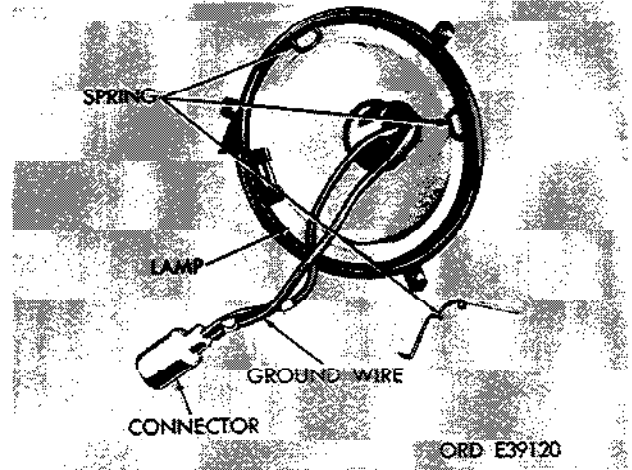

Figure 2-197. Remove sealed beam light.
(3) Remove three lamp retaining springs and remove sealed beam lamp (fig. 2-197).